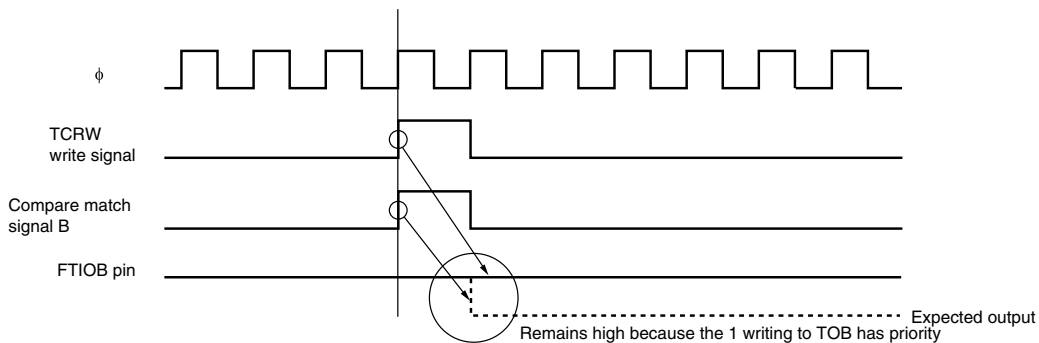

Figure 12.26 When Compare Match and Bit Manipulation Instruction to TCRW Occur at the Same Timing
5. The TOA to TOD bits in TCRW decide the value of the FTIO pin, which is output until the first compare match occurs. Once a compare match occurs and this compare match changes the values of FTIOA to FTIOD output, the values of the FTIOA to FTIOD pin output and the values read from the TOA to TOD bits may differ. Moreover, when the writing to TCRW and the generation of the compare match A to D occur at the same timing, the writing to TCRW has the priority. Thus, output change due to the compare match is not reflected to the FTIOA to FTIOD pins. Therefore, when bit manipulation instruction is used to write to TCRW, the values of the FTIOA to FTIOD pin output may result in an unexpected result. When TCRW is to be written to while compare match is operating, stop the counter once before accessing to TCRW, read the port 8 state to reflect the values of FTIOA to FTIOD output, to TOA to TOD, and then restart the counter. Figure 12.26 shows an example when the compare match and the bit manipulation instruction to TCRW occur at the same timing.